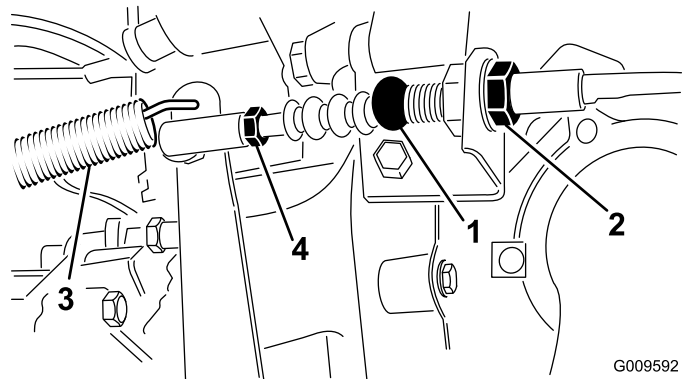

Figure 54
1. Loosen the jam nuts securing the clutch cable to the bracket on the bell housing (Figure 54).